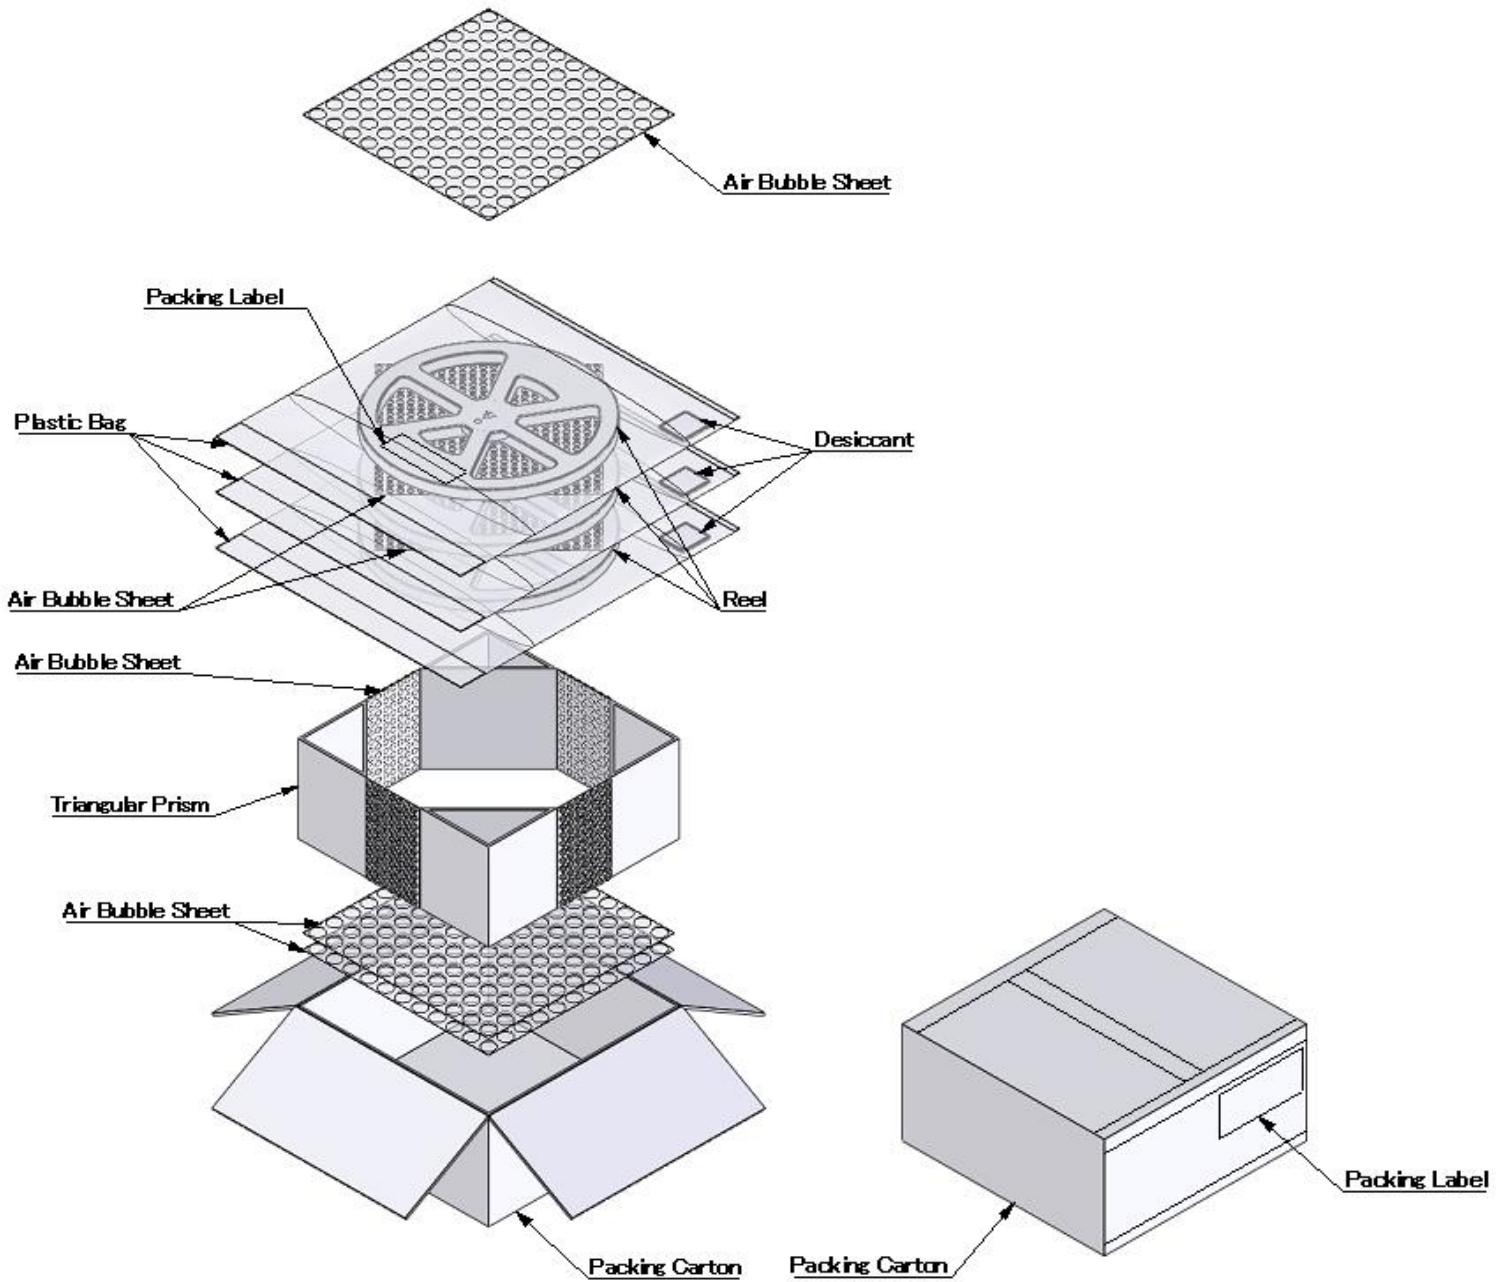

Fig.1
- ④ Product Name
- ⑤ QR Code
- ⑥ Check Stamp
- ⑦ Country of Origin
- ⑧ Recycle Mark and Compliance Mark
- ⑨ Logo Mark
- ⑩ Manufacture Name
5. Packing Method [See Fig.1.]